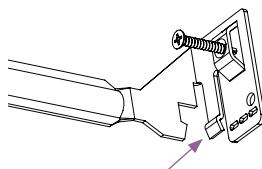

fig. 4
- c. T- Grid ceiling only: Bend the tabs on the nailer bars to lock them to the t-grid (see fig. 4).